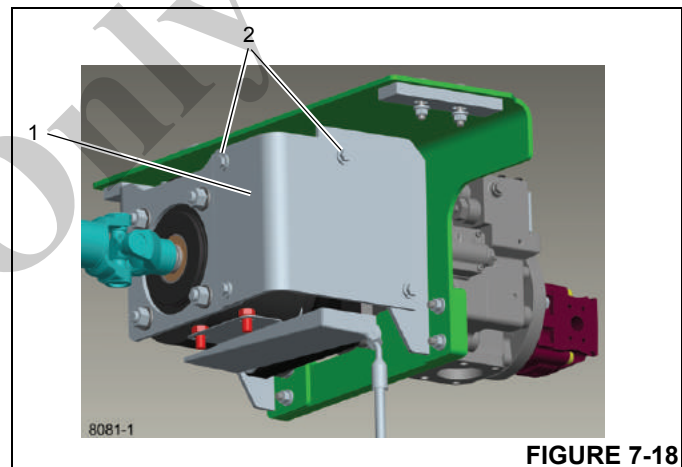

FIGURE 7-18
4. Remove the access cover (1, Figure 7-18) by removing the four cap screws and washers (2) and two "double-nut" plates.
3. Attach the access cover (1, Figure 7-18) to the front support plate/clutch/mounting bracket with four cap screws and washers (2) and two double-nut plates. Torque all hardware, refer to *Fasteners and Torque Values*, page 1-13.